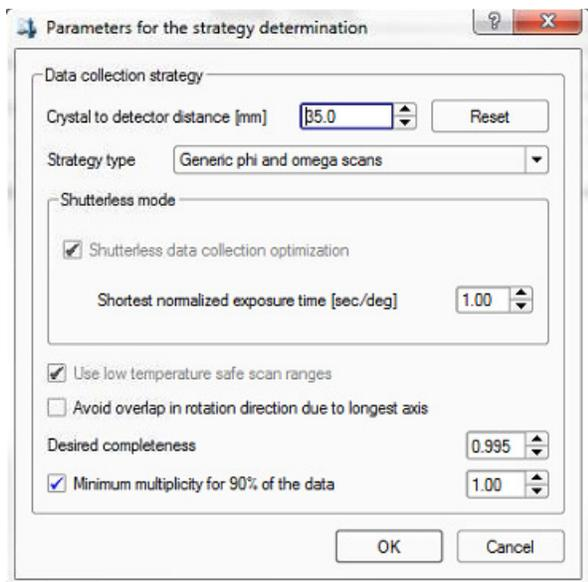

Figure 17, Determine Strategy popup window
- Under Step 3., click <Select Scan Parameters>. A popup window will emerge. Click the two <Estimate> buttons for “Frame angle” and “Frame time” to obtain (usually reasonable) suggested values (Fig. 17).